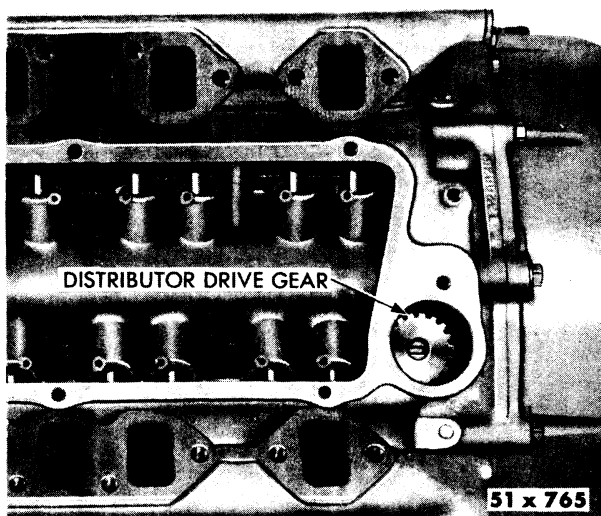

Fig. 78—Distributor (Basic) Timing (Typical)
- (2) Using Tool C-3027, position the oil pump shaft so that it lines up with the slot in the drive gear, as shown in Figure 78.
- (3) Coat the shaft of the drive gear with engine oil, then install so that as the gear spirals into position, it will index with the oil pump shaft and the slot in the top of the drive gear will be parallel with the centerline of the crankcase, as shown in Figure 78.